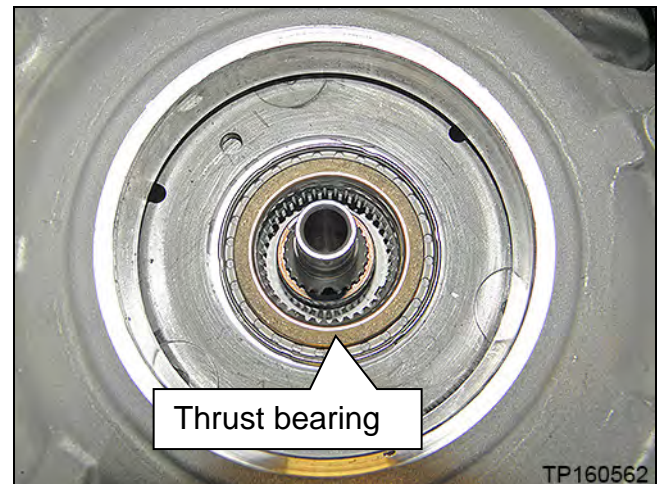

Figure 16F
14. Remove the thrust bearing from the planetary carrier plate (Figure 16F).